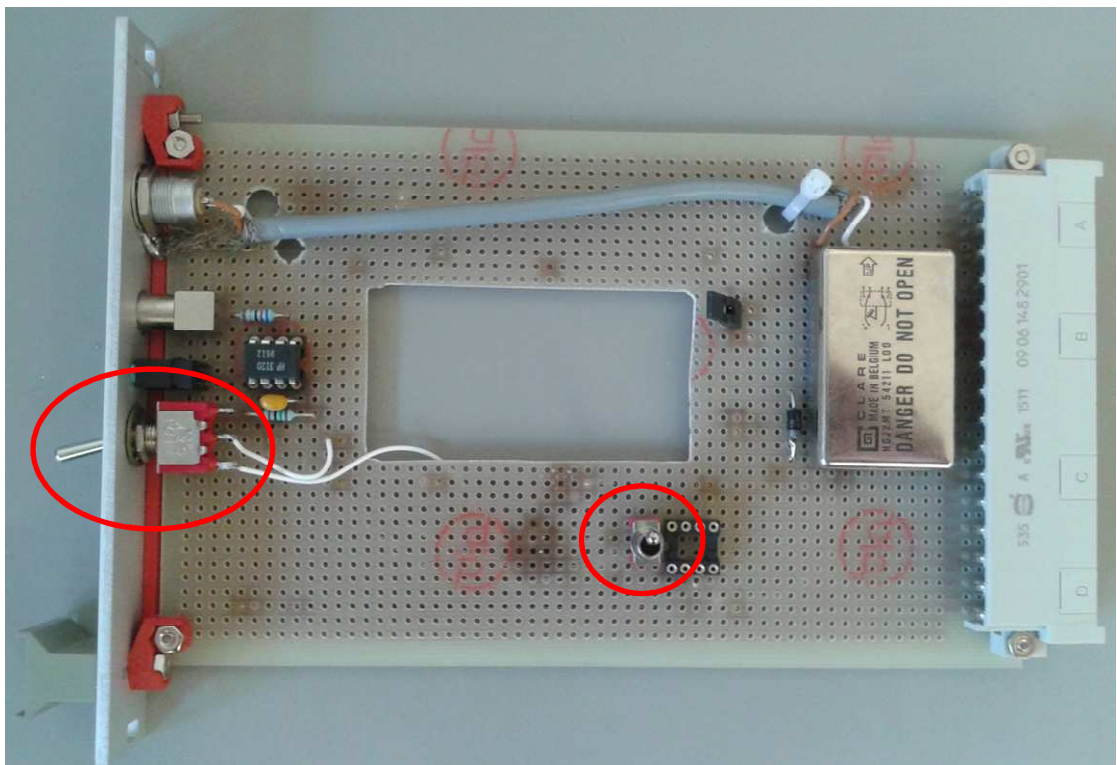

Figure 2-6 DCCT Emulator Card
1. Connect the DCCT emulator card on the DCCT electronic plug. Please double check if the switches are in the proper position as in the figure 2-6 below.